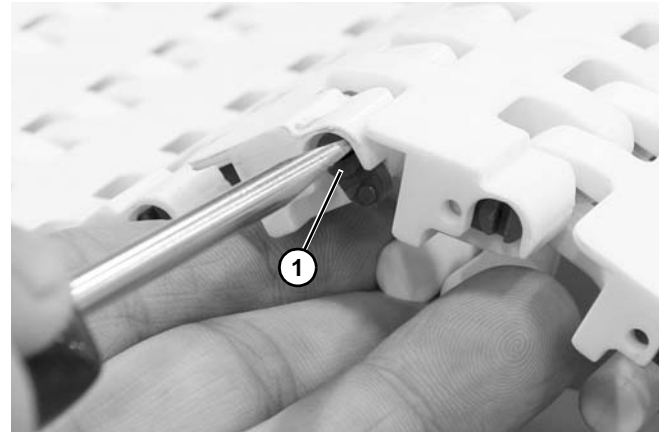

Figure 36
2. Insert a flat blade screwdriver into the slot on the rod head (Figure 36, item 1) and rotate the rod head counterclockwise to unlock.